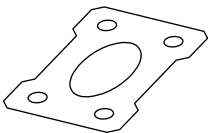

Fig. 17.20 First example – 2D outlines in 3D space. The outline in the Isometric view
4. Place the drawing area in the **ViewCube/Isometric** view (Fig. 17.20).